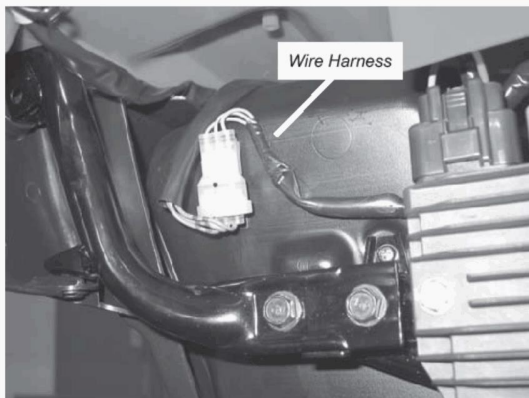

Figure 10 Remove Wire Harness from Bracket
- b. Remove the wire harness, “Figure 10”, from the bracket that holds the wire harness in position.